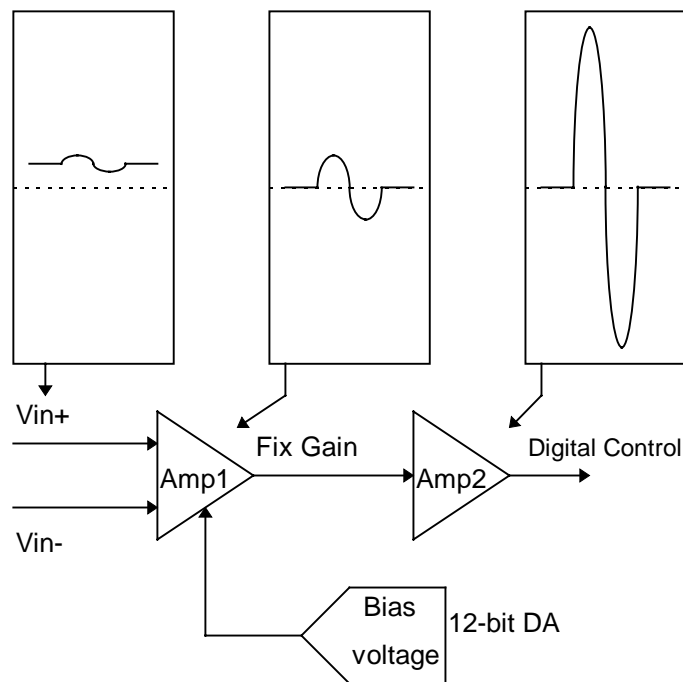

Fig.3
In ISO-LDH/L board, we use two stage amplifier for flexible signal condition. The first amplifier, which is fixed gain, with digital controllable bias voltage can adjust the input signal from loadcell to the suitable range for next amplifier. The next amplifier is digital controllable from 1/10/100/1000 (for ISO-LDH or 1/2/4/8 for ISO-LDL). When measure the dynamic variation of signal, we may amplify the signal as large as possible without clamping. The amplifier diagram is shown in fig.3
In general, there are 3 different analog signal connection method as shown in Fig1 to Fig3. The Fig1 is suitable for grounding source analog input signals. The Fig2 can measure more channels than in the Fig1 but only suitable for large analog input signals. The Fig3 is suitable for thermocouple and the Fig4 is suitable for floating source analog input signals.
Note : In Fig3, the maximum common mode voltage between the analog input source and the AGND is 70Vp-p, so the user must make sure that the input signal is under specification first. If the common mode voltage is over 70Vp-p, the input multiplexer will be damaged forever.
- 2. Thermocouple input signal → select Fig3**
CAUTION : In Fig3, the maximum common mode voltage between the analog input source and the AGND is 70Vp-p, so the user must make sure that the input signal is under specification first. If the common mode voltage is over 70Vp-p, the input multiplexer will be damaged forever.